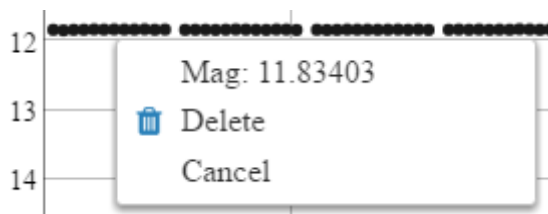

Figure 22. Context menu for measurement of the light curve in *Plots Viewer*
- "Cancel" menu item to exit from the context menu (Figure 22).